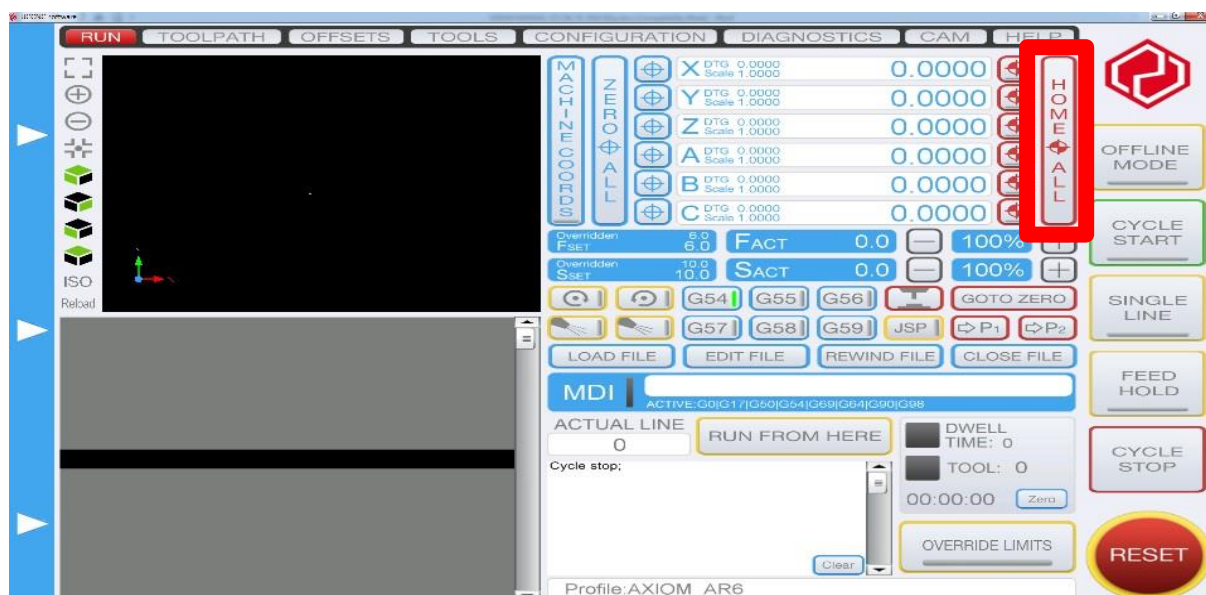

Figure 28: UCCNC Home All Command
*You must reference the machine each time the machine gets turned on* to tell the software where the edges of the machine movement are. This can be done by using the “Home All” Command as you can see in Figure 28. The machine will move each axis to a single extremity until it hits that axis limit switch. It will then move away until the switch releases setting the machine home position. This is how the software knows where the machine is relative to the limit switches.